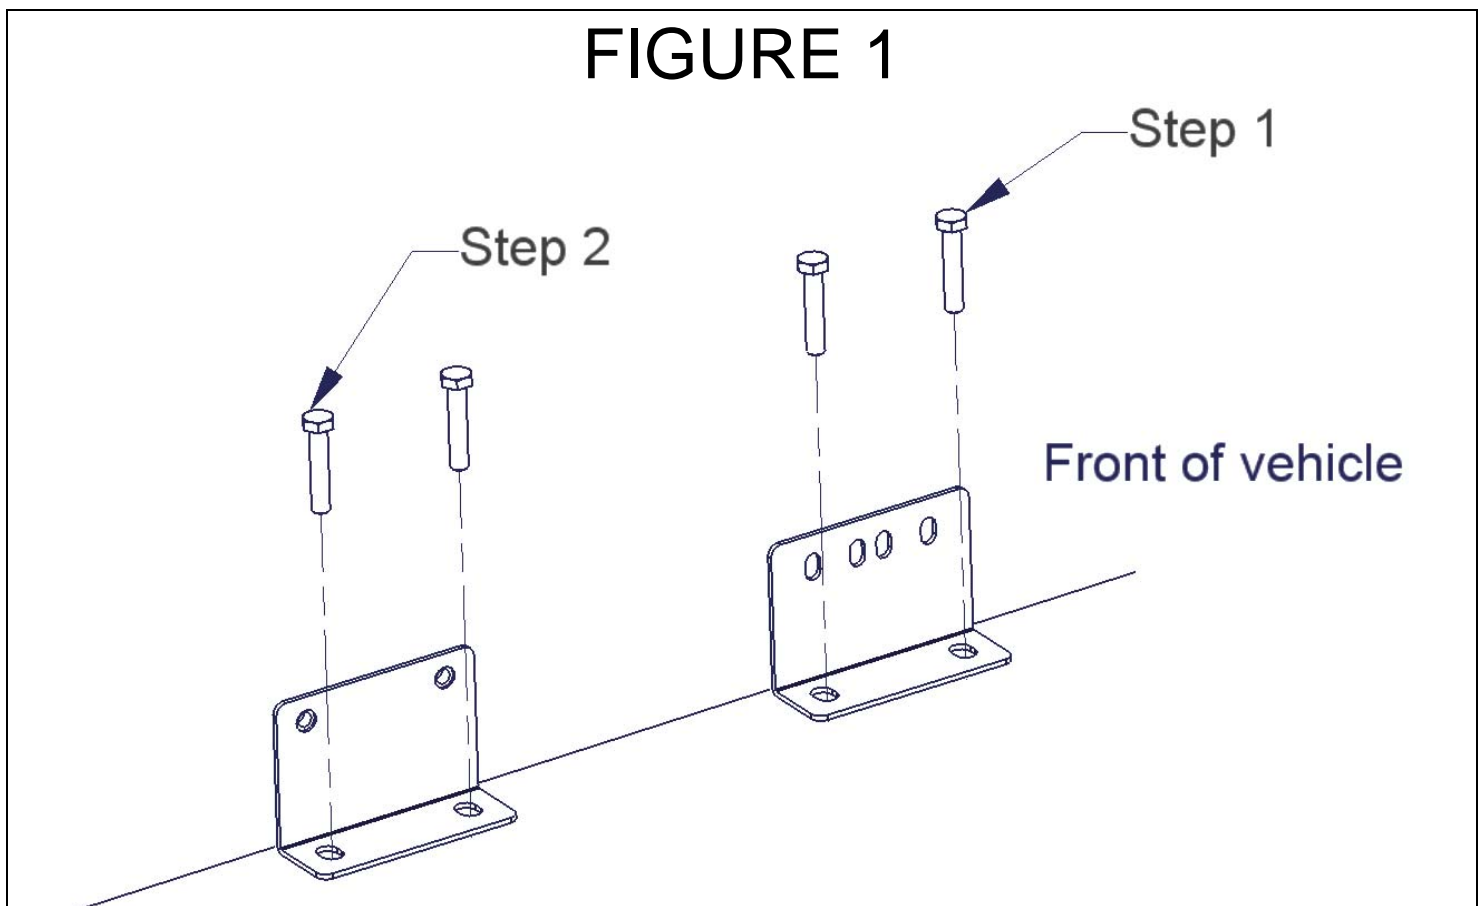
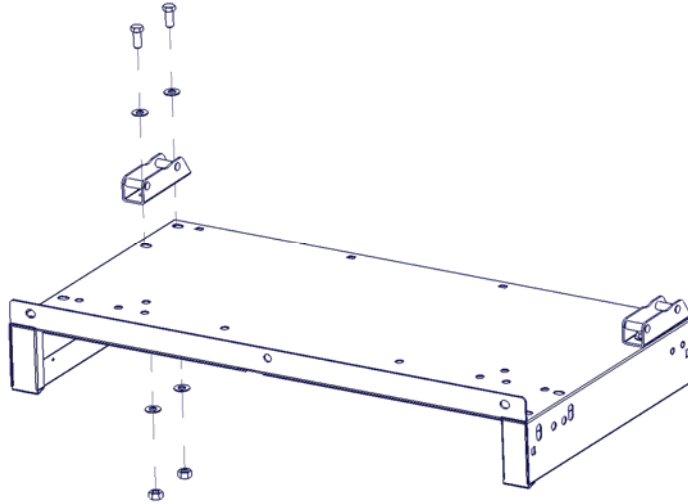

FIGURE 2
FIGURE 3
9. Mount the original front (2) seat brackets to the top of the drawer using (4) 7/16 x 1 1/4" Bolts, (4) 7/16 Nylock Nuts, and (8) 7/16" Washers. (See Figure 2)
10. Place the drawer enclosure into the vehicle opening toward the rear of the vehicle. (On some vehicles the seat belt mounting bolts may stick out preventing the drawer enclosure from fitting between them. In this situation replace the original seat belt mounting bolts with the (2) included 7/16 x 1 1/4" bolts and 7/16" Washers)
11. Bolt the drawer enclosure to the Left and Right front mounting brackets using (4) 5/16 x 5/8" Bolts and (4) 5/16" Washers. (See Figure 3, Step 1)
12. Bolt the drawer enclosure to the Left and Right Rear mounting brackets using (4) 3/8 x 5/8" Bolts and (4) 3/8" Washers. (See Figure 3, Step 2)
14. Fasten the original seat belt harness assembly to the drawer enclosure angle bracket with (1) 7/16 x 1 1/4" Bolt, (1) 7/16 Nylock Nut, and (2) 7/16" Washers. (See Figure 3, Step 3) **NOTE: Drawer Part # 021 is shown in illustration; in drawer Part # 130 this hole is located toward the center of the enclosure.**